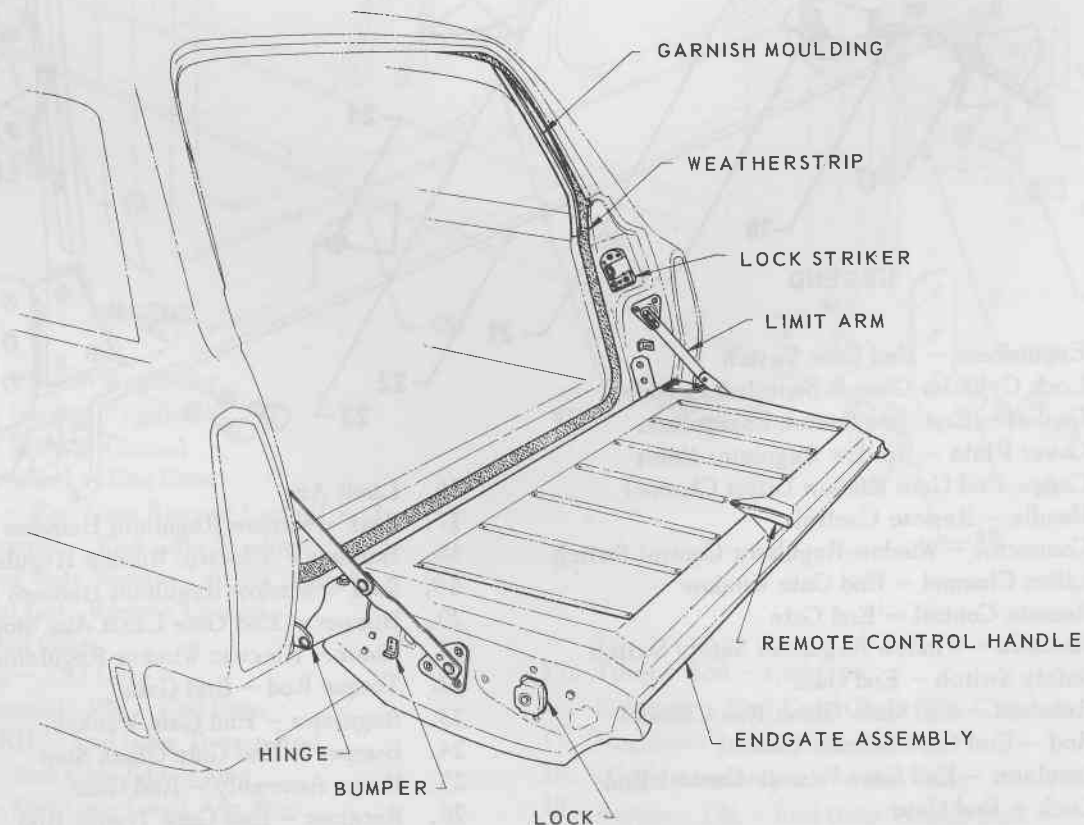

FIG. 6 - 3
4. Remove screws securing motor to window regulator and remove motor (see Fig. 6 - 2).